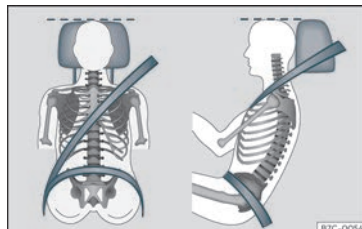

Fig. 7 Correct belt web and head restraint positions
- Adjust the head restraint so that its upper edge is at the same level as the top of your head, or as close as possible to the same level as the top of your head and under no circumstances below eye level. Keep the back of your neck as close as possible to the headrest»» Fig. 7.